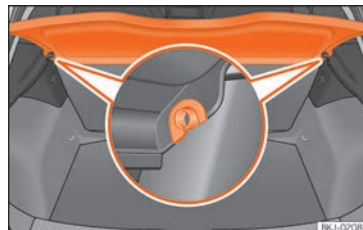

Fig. 164 In the boot: removing and installing the shelf.
- Remove the rear shelf from the side supports »» **Fig. 164** by pulling it upwards and then take it out.
- Insert the cover horizontally so that the “recess” fits onto the axis of the supports »» **Fig. 164** and press down until it engages.